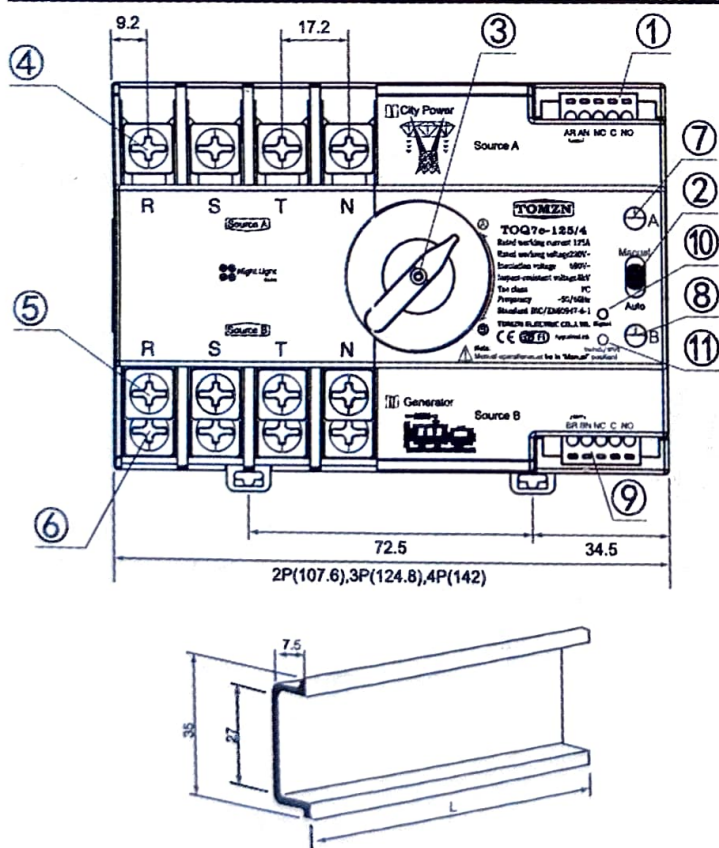

Fig.8
- 7.3 See the figure for the correct installation steps. The trademark is in front of the product. If the installation cannot be carried out according to the correct procedures due to wiring and other reasons, please contact us. The safe distances S_1 , S_2 should not be lower than the labels in Fig. 8. (See figure below for details)